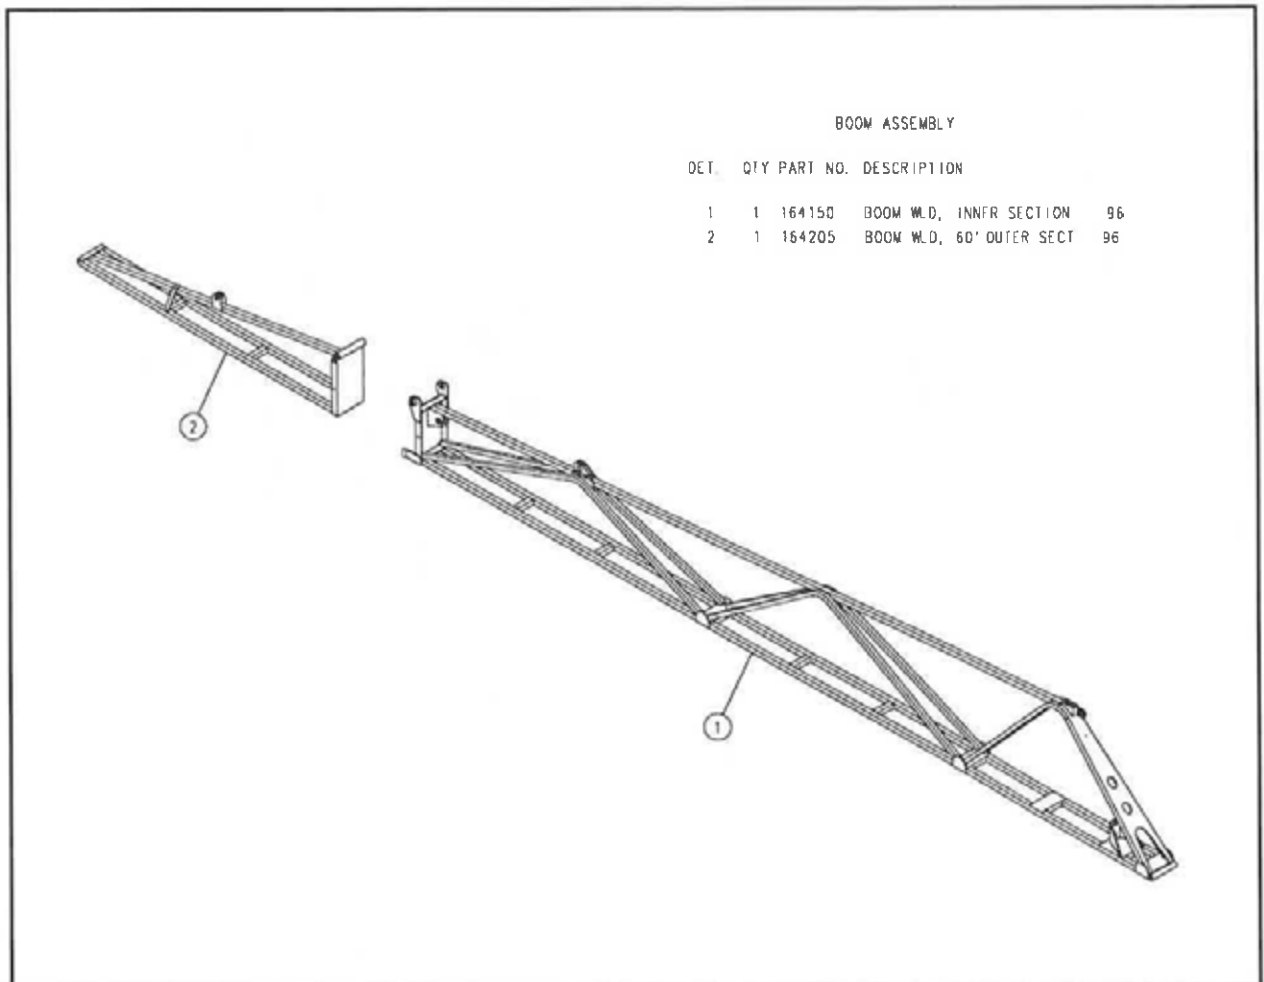

FIG. 4.8
7. The booms come in a standard 60' length (fig. 4.8). Refer to the parts manual for detailed drawings for the correct hardware and hydraulic components when attaching to the transom.